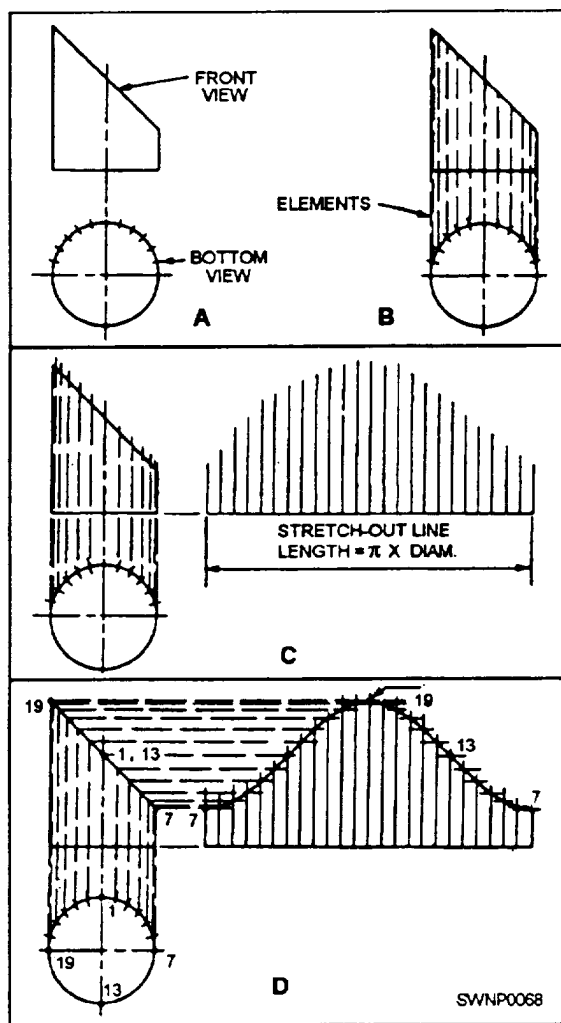

Figure 2-51.—Development of a truncated cylinder.
1. First, draw a front and bottom view by orthographic projection (fig. 2-51, view A).
2. Divide half the circumference of the circle (fig. 2-51, view A) into a number of equal parts. The parts should be small enough so that when straight lines are drawn on the development or layout between division points, they will approximate the length of the arc. Project lines from these points to the front view, as shown in figure 2-51, view B. These resulting parallel lines of the front view are called ELEMENTS.
3. Lay off the base line, called the STRETCH-OUT LINE, of the development to the right of the front view, as shown in figure 2-51, view C.
4. Divide the stretch-outline into twice the number of equal parts equal to each division of the circumference on the half circle of the orthographic view (fig. 2-51, view C).
5. Erect perpendicular lines at each point, as shown in figure 2-51, view C.
6. Using a T-square edge, project the lengths of the elements on the front view to the development (fig. 2-51, View D).